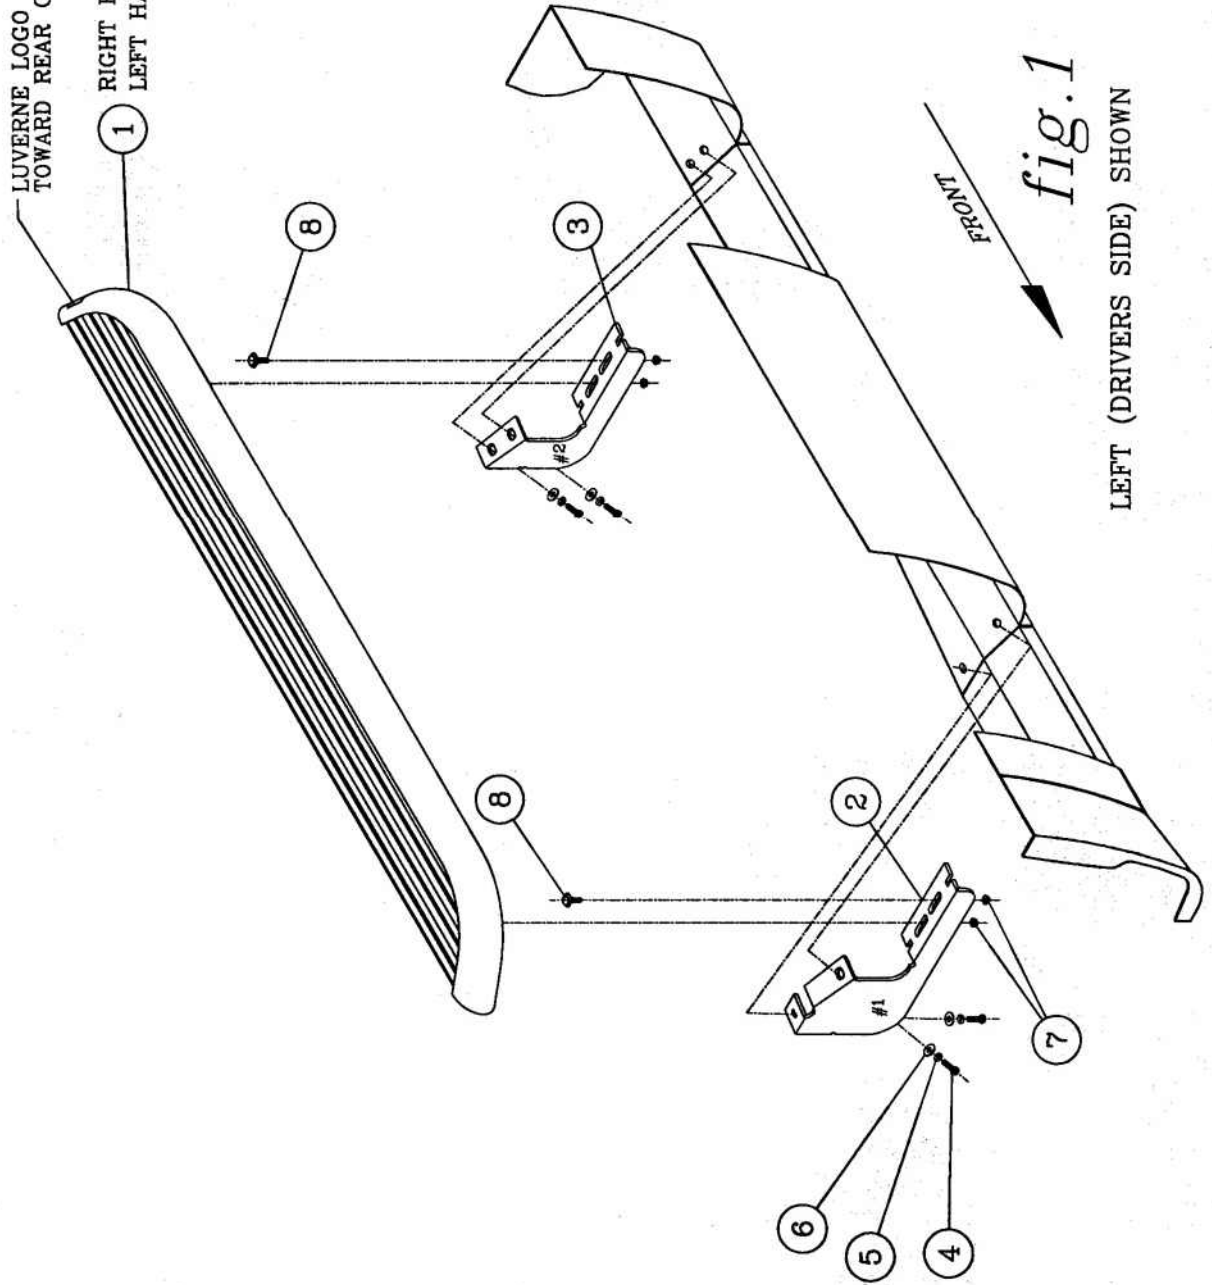

fig. 1
2. ATTACH THE MOUNTING BRACKETS TO THE VEHICLE USING EXISTING MOUNTING HOLES ON THE INTERIOR WALL OF THE ROCKER PANEL. NOTE: THE BRACKETS MUST BE PLACE IN THE PROPER POSITION, SEE FIG. 1.